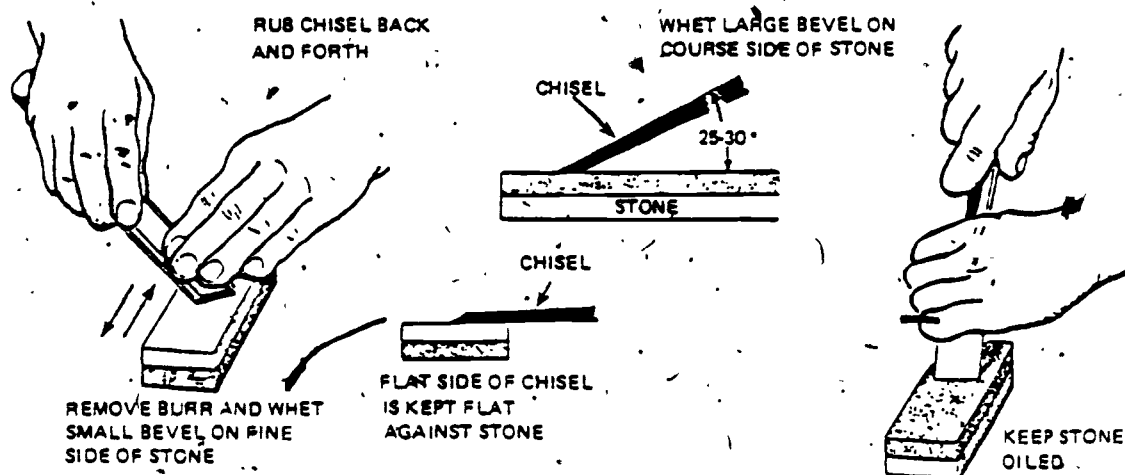

Figure 15. Sharpening a chisel in a safe manner.
Grind a chisel only when (1) you have to restore the angle of the bevel (the sloping part near the tip), (2) the cutting edge has become badly nicked, or (3) the bevel has become too short or rounded as a result of careless or frequent whetting. Whetting methods are shown in Figure 15. Use a common